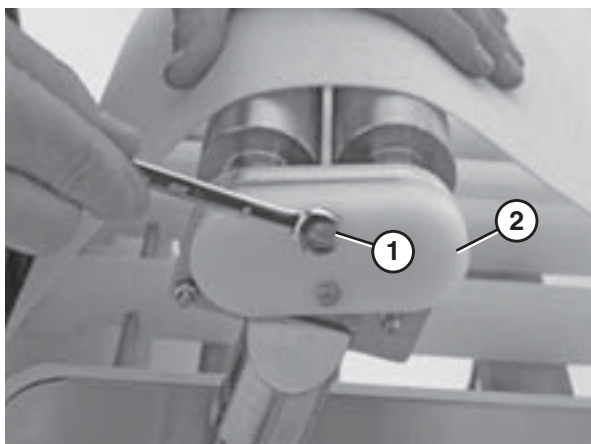

Figure 86
2. Remove the transfer bearing screws (Figure 86, item 1) and the cover (Figure 86, item 2) using an 8 mm wrench.